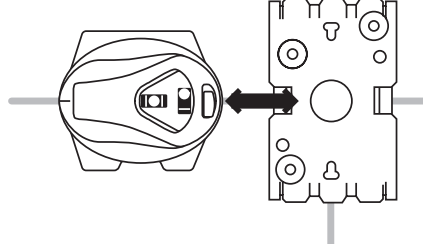

Figure 2
3. Rotate laser base 180 degrees and slide laser level onto the box tongue (See Figure 2).